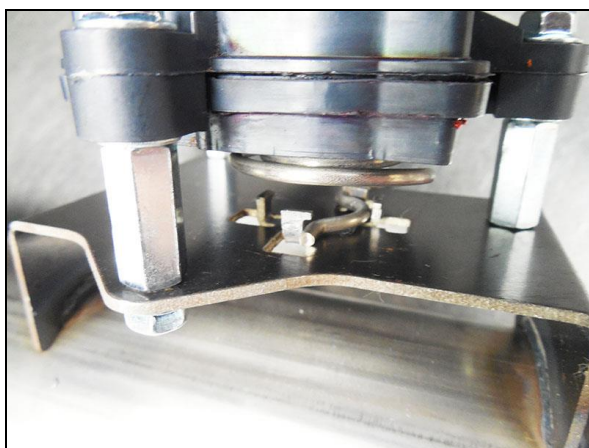

Figure 4
8. Check the alignment of the spring coupler after all the bolts have been installed. The drive spring needs to be positioned correctly between the raised tabs allowing 90° of actuator rotation. This will simulate the amount of valve action on the factory AEV assembly. If the drive spring is positioned incorrectly (or missing) the actuator will not rotate through its correct range of motion and the CHECK ENGINE light will illuminate. Reference **Figure 4** for correct drive spring positioning.